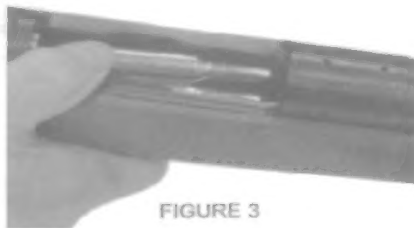

FIGURE 3
5. As shown in **FIGURE 3**, load the correct caliber cartridges into the magazine by pressing downward and to the rear, filling the magazine to capacity (see **SECTION 4**).